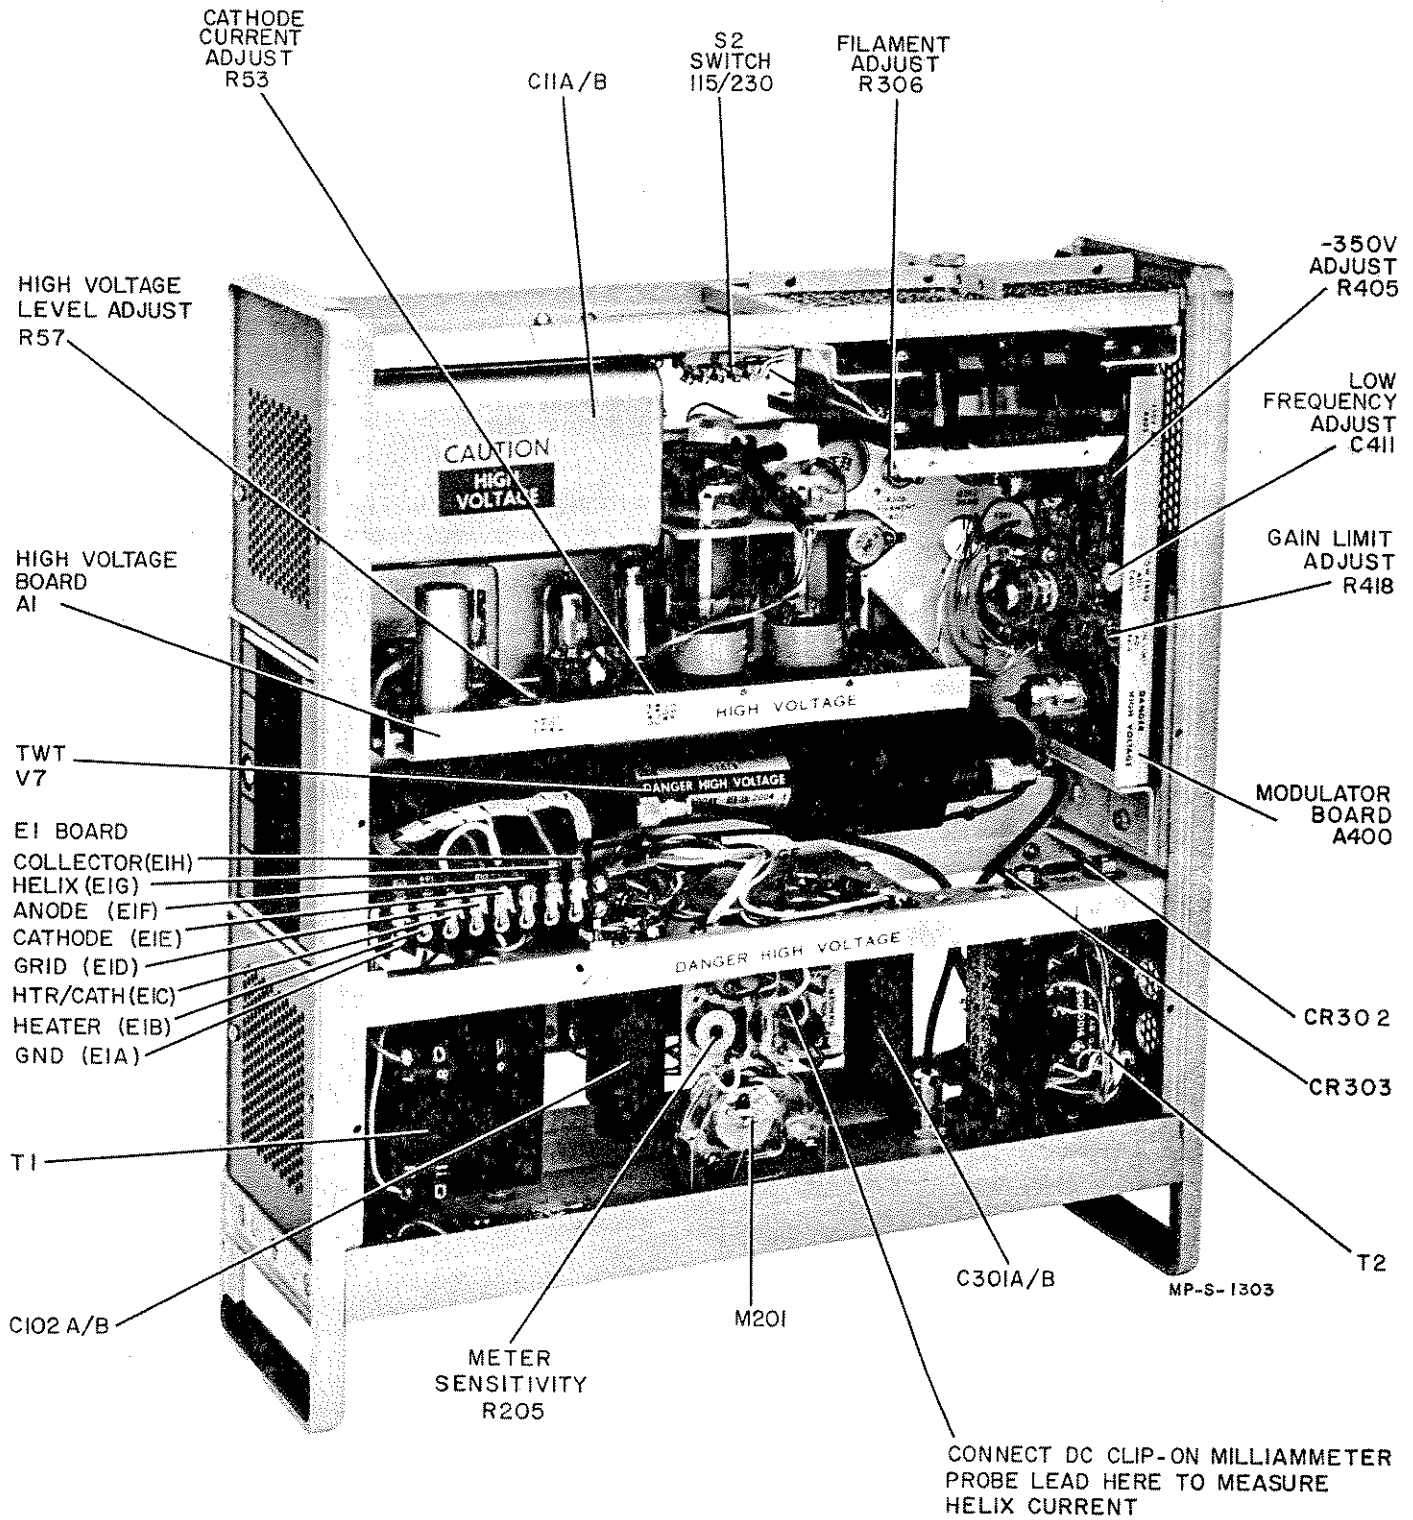

Figure 5-3. Model 493A Top View
- g. Remove E1 mounting screw nearest ground terminal (E1A, Figure 5-3), and swing E1 assembly aside.
- f. Connect jumper wire between E1C (grey filament lead) and E1E (white cathode lead) on the E1 board. All replacement tubes require the jumper between E1C and E1E. Connect the TWT lead to terminal board E1 as shown in table 5-2 and figure 5-3.
- b. Rotate filament adjust R306, (figure 5-3) full counterclockwise.
- c. Connect dc voltmeter between E1B and E1C (see figure 5-3). DC voltmeter to 10-volt range.
- a. Parallel an ac and dc voltmeter; connect between helix terminal (E1G) and ground (figure 5-3).
- c. With the high voltage adj. R57, (figure 5-3) set the collector/helix voltage to the value stamped on the TWT capsule.
- a. Parallel an ac and dc voltmeter; connect between anode terminal (E1F) and ground (figure 5-3).
- b. With the cathode current adjust R53 (figure 5-3), set anode voltage to value listed in TWT data sheet.
b. With the -350 volt adj. R405 (figure 5-3), set -350 volt regulated power supply to -350 volts.
a. Parallel an ac and a dc voltmeter; connect between grid terminal E1D and E1E (figure 5-3).
e. Connect a dc clip-on milliammeter to the orange or yellow lead located on the board directly behind the current meter (see figure 5-3).
- d. Adjust high frequency adj. R411 (see figure 5-3), for optimum square-wave output. Rise time should be less than 0.8  $\mu$ sec, overshoot less than 5%.